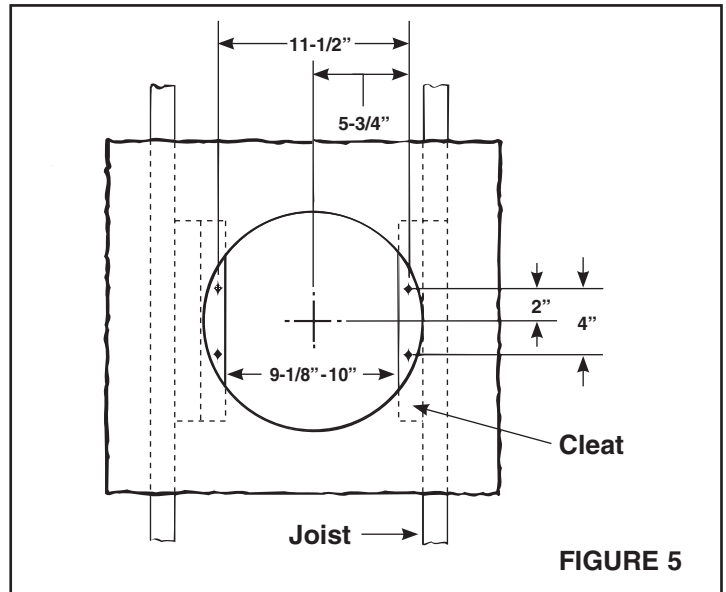

FIGURE 5
7. Refer to Figure 5. Install 2 x 4 cleats to both ceiling joists. In some cases it may be necessary to use more than a single cleat on one side. The distance between cleats must be at least $9\frac{1}{8}$ " but not more than 10".